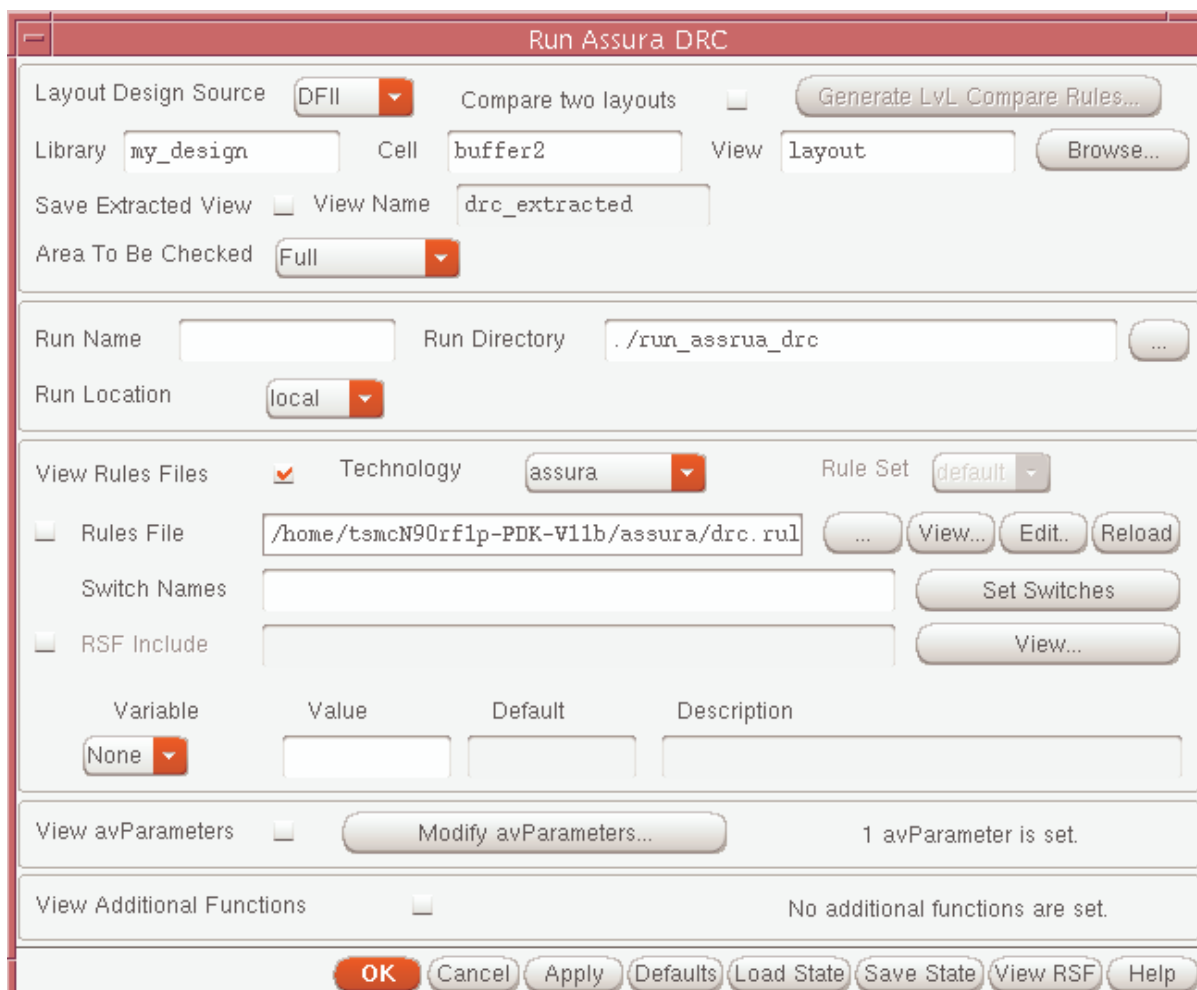

FIG. 36 Assura DRC setup window
2. Fill in the "Assura run directory" and select the "Technology" field to "assura_tech" (Fig. 36) in Assura DRC window. You can also set the Assura DRC switches and other parameters if needed.